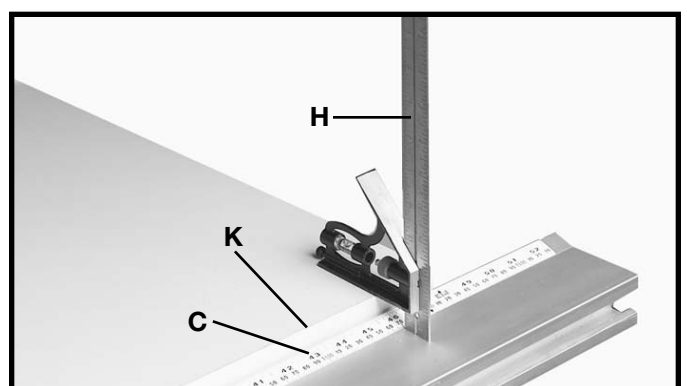

Fig. 54
8. Move the square (H) Fig. 54, to the end of the Unifence table and check to make certain the same distance is maintained from the top surface of the extension table (K) to the top surface of the guide rail (C). Move the front table support (L) Fig. 55, against the guide rail (C), and tighten the 1/4-20 nuts (M). Tighten two wood screws, one of which is shown at (N) Fig. 55, that fasten the Unifence table to the guide rail.